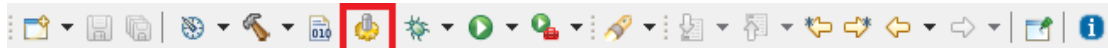

Figure 8: STM32CubeIDE menu icons - Code Generation
- Before building the project the first time some hardware specific code has to be generated. Open the STM32CubeMX configuration window with a double-click on the *.ioc file in STM32CubeIDE's project explorer. Then the code can be generated with **Project** → **Generate Code** or by clicking on the *Code Generation* icon as seen in Figure 8.